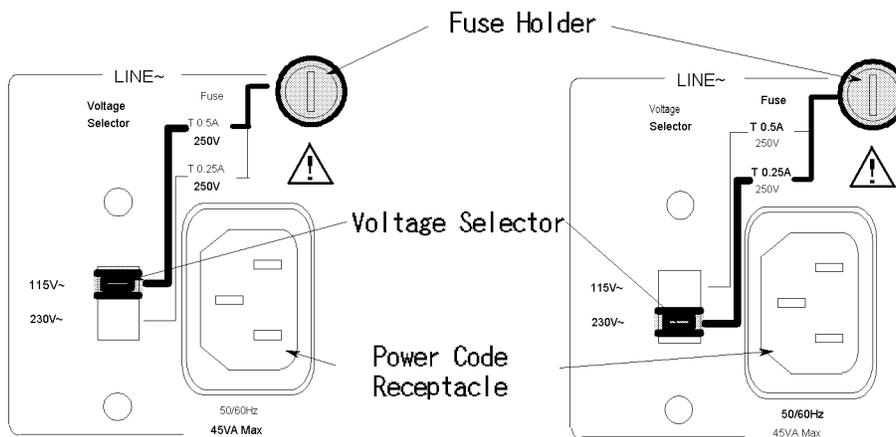

Figure 1-2. Voltage Selector and Fuse
Confirm that the LINE Voltage Selector on rear panel is set to match the power line voltage before plugging in the 4263B. Refer to Figure 1-2
2. Slide the LINE Voltage Selector on the rear panel to match your power line voltage. When your power line voltage is 100/120 Vac($\pm 10\%$), slide the Selector to 115 V. When your power line voltage is 220/240 Vac($\pm 10\%$), slide the Selector to 230 V. See Figure 1-2.
The fuse can be replaced by turning the fuse holder shown in Figure 1-2 counterclockwise until the fuse holder pops out with a minus screw driver.